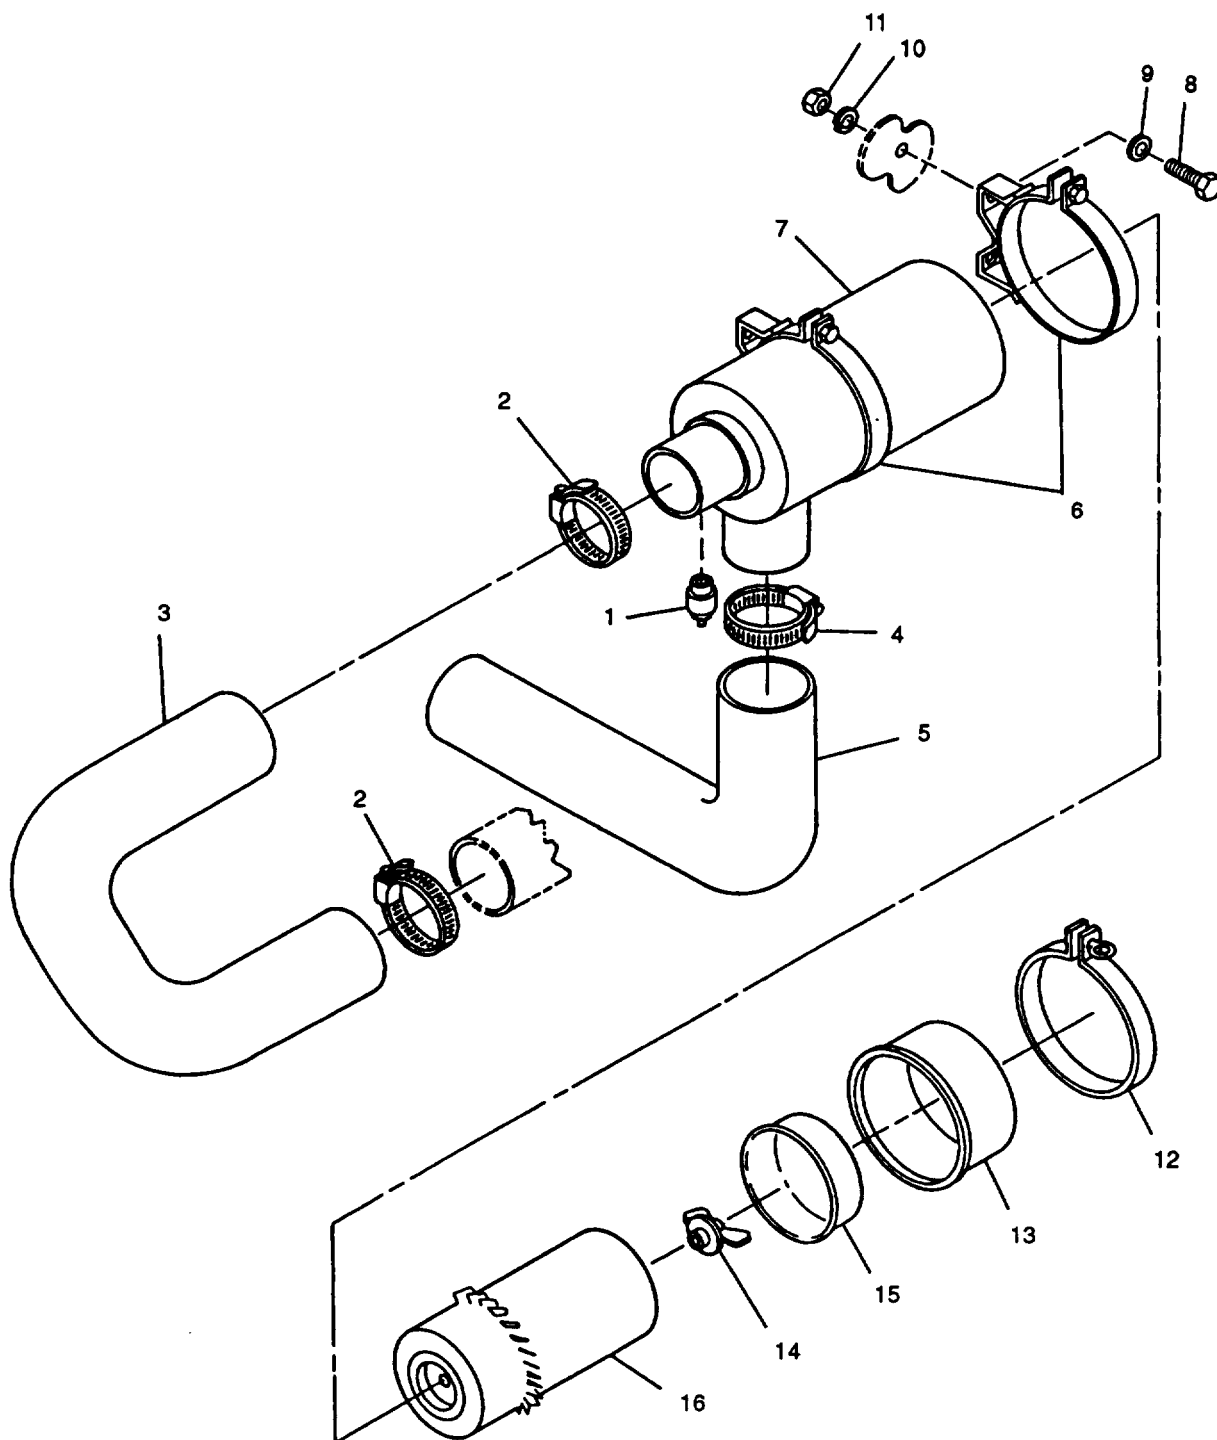

FIGURE 2-19. Air Cleaner Assembly
- c. Inspect air restriction indicator (1, FIGURE 2-19) for cracks, stripped threads, or other obvious damage.
- c. Unscrew and remove air restriction indicator (1, FIGURE 2-19) from air cleaner housing (7).
- a. Install air restriction indicator (1, FIGURE 2-19) on air cleaner housing (7).
- c. Loosen clamps (2, FIGURE 2-19) and remove hose (3) from air cleaner housing (7) and engine intake.
- d. Loosen clamp (4) and remove hose (5) from air cleaner housing (7).
- e. Open clamps (6) and remove air cleaner assembly from generator set.
- a. Install clamps (6, FIGURE 2-19) on generator set with bolts (8), washers (9), lockwashers (10), and nuts (11).
- c. Place air cleaner assembly in clamps (6).
- d. Position hose (3) on air cleaner housing (7) and intake manifold.
- e. Position hose (5) on air cleaner housing (7).
- f. Tighten clamps (6) securing air cleaner assembly.
- g. Reposition hoses (3) and (5), and tighten clamps (2) and (4).
- c. Loosen clamp (12, FIGURE 2-19) and remove cap (13), and baffle (15).
- d. Remove wing nut (14) and air cleaner element (16).
- b. Wipe inside of air cleaner housing (7, FIGURE 2-19) with cleaning cloth (Item 6, Appendix C).
- c. Inspect element (16) for clogs necessary.
- a. Install air cleaner element (16, FIGURE 2-19) and wing nut (14).
- b. Install cap (13) and baffle (15), and tighten clamp (12).